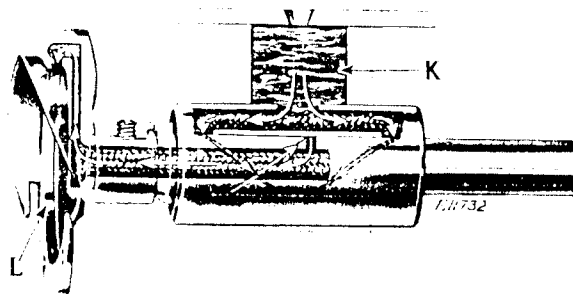

Fig. 3. X-ray View of Hook Lubricating System
Before starting the machine, fill the oil reservoir (K, Fig. 3) through the oil hole in the bed of the machine. This reservoir lubricates the front hook shaft bearing and sewing hook raceway through the oiling system shown in Fig. 3.
When starting a new machine, it is advisable each morning, for about a week, to apply a few drops of oil directly to the hook raceway (L, Fig. 3). **ALWAYS KEEP A SUPPLY OF OIL IN THE RESERVOIR (K).**